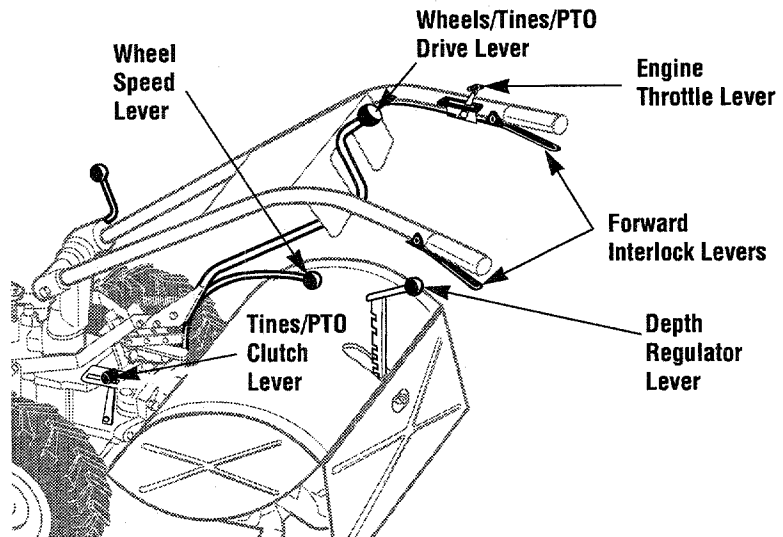
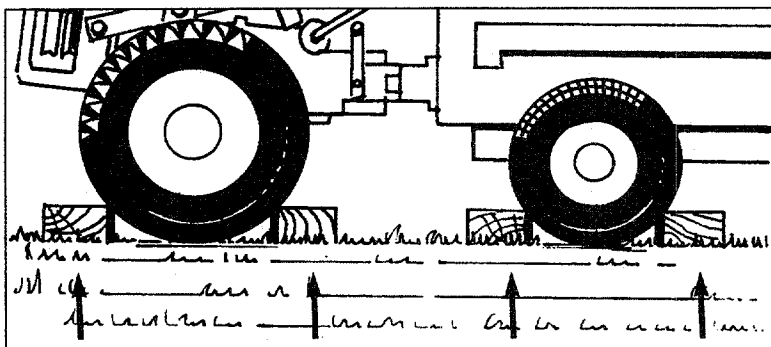

Figure 4-22: PTO Power Unit controls.
Figure 4-29: Block wheels on PTO Power Unit and stationary attachment.
4. Place the Wheels/Tines/PTO Drive Lever into NEUTRAL (Figure 4-22).
5. Place Tines/PTO Clutch Lever in DISENGAGE (Figure 4-22).
6. Place Wheel Speed Lever into FREE WHEEL (Figure 4-22).
2. Move Wheel Speed Lever (Figure 4-22) to FREEWHEEL, then block all wheels (Figure 4-29) to prevent the equipment from rolling.
1. Move the Tines/PTO Clutch Lever (Figure 4-22) to DISENGAGE.
2. Move the Wheel Speed Lever (Figure 4-22) to either SLOW or FAST position. To do this, roll the PTO Power Unit while shifting lever until wheels engage.
1. Move Tines/PTO Clutch Lever (Figure 4-22) into ENGAGE.
2. To apply power to PTO-driven attachments, move Wheels/Tines/PTO Lever (Figure 4-22) down to FORWARD position (do not use REVERSE with stationary attachments).